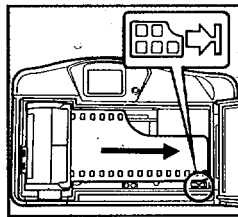

Fig.6 Abb.6 圖.6
2. Load the film cassette into the Film Chamber and pull out enough film leader to extend past the Film Leader Mark. **(Fig. 6)**